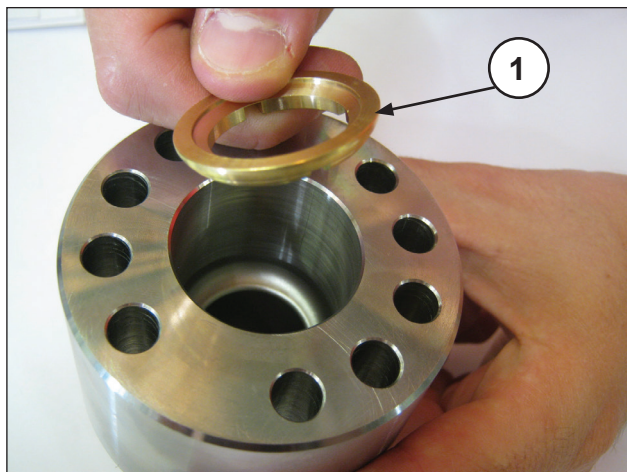
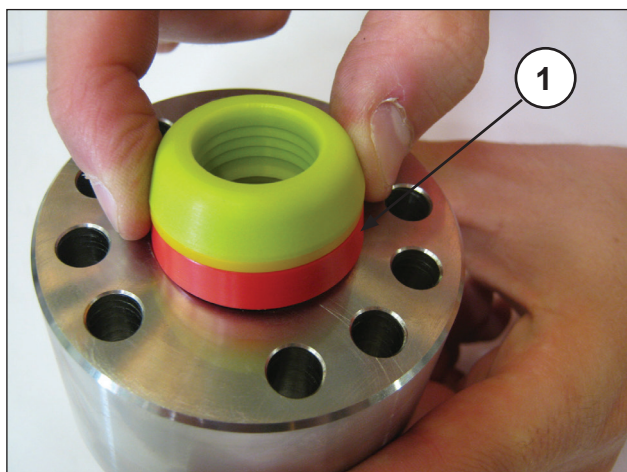
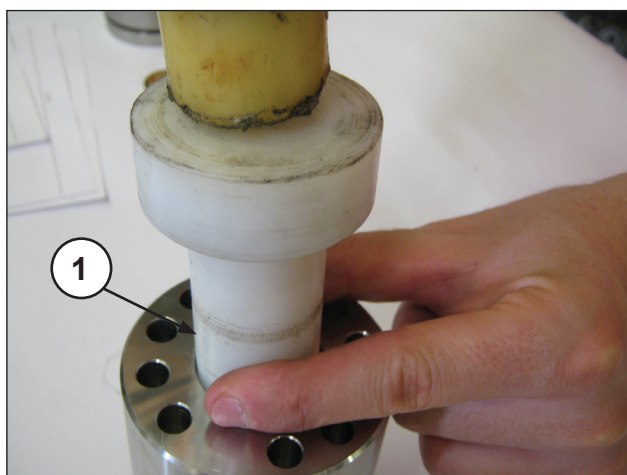

Fig. 132
Fig. 133
Fig. 134
- Introduce in the H.P. seals support, the head ring (pos. ①, Fig. 132) and then the H.P. (high pressure) packing; considering the slight interference between the seal and the H.P. seals support, to avoid damage we advise using a plastic pad (pos. ①, Fig. 133 and Fig. 134).
The H.P. seal must be placed in the support as indicated in Fig. 133 and Fig. 135.